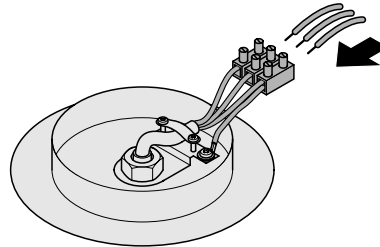

Fig. 1
6. Connect 230 V cord to terminal block (Fig. 1).